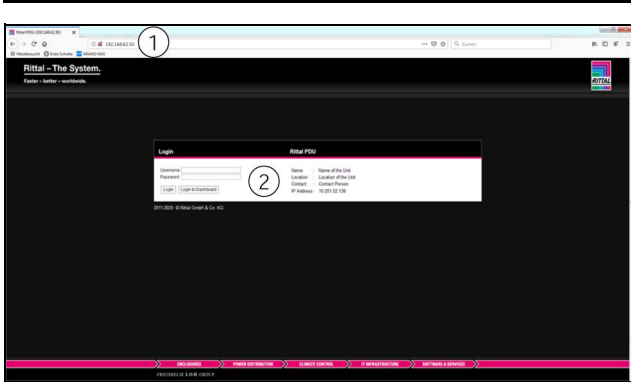

Fig. 17: Login dialogue for login on the device
- Enter the displayed IP address in the browser. In the example, <http://10.201.52.138> (see fig. 17, item 1). The login dialogue for login on the device is displayed
- Log in with the username **admin** and the password **admin** (fig. 17, item 2).
- In the browser, enter the address **http://192.168.0.200** (fig. 17, item 1). The logon dialog for logging on to the device will be displayed.